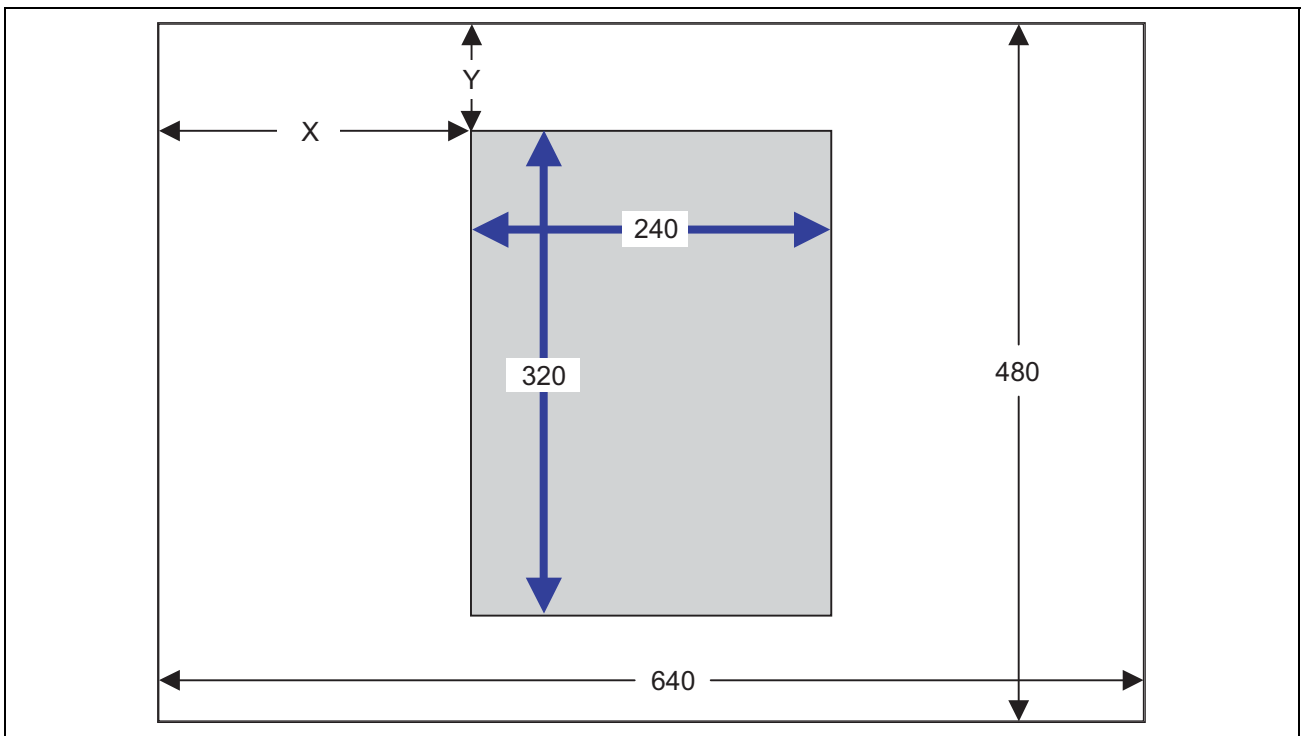

Figure 4.1.1 The Image Data Capture Range
In this sample task, an image (240 × 320 dots) from the area shown in figure 4.1.1 is captured from one frame of camera video image (640 × 480 dots).
- (1) Calling the function for initializing the DRI.
- (2) Setting the video image data capture starting point.
- Setting value X to variable "usHsyncCtrlCnt" and value Y to variable "usVsyncCtrlCnt" in figure 4.1.1.
- (3) Calling the function for DRI frame data input processing.